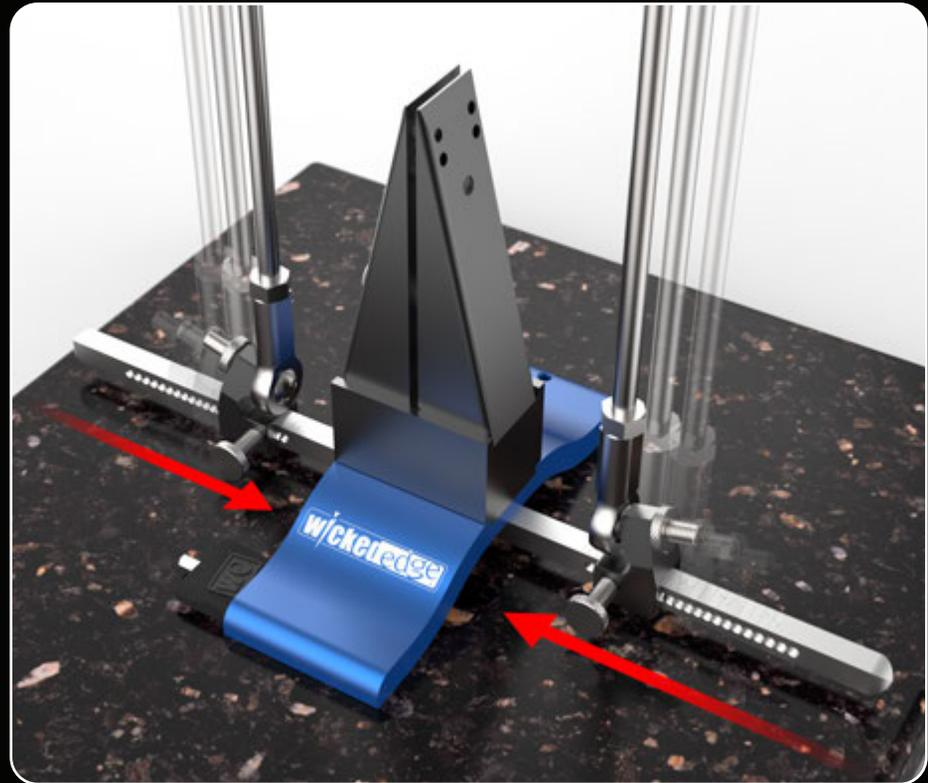

Fig. 15
Step 7: Slide L-bracket, Ball Joint and Guide Rod Assembly onto each end of the Degree Bar as shown in *Figure 15*. The Ball Joints should be facing inward toward the Vise.